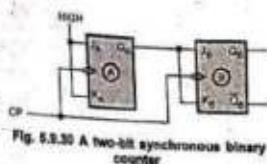

Fig. 5.9.30 A two-bit synchronous binary counter
- Fig. 5.9.30 shows two stage synchronous counter.